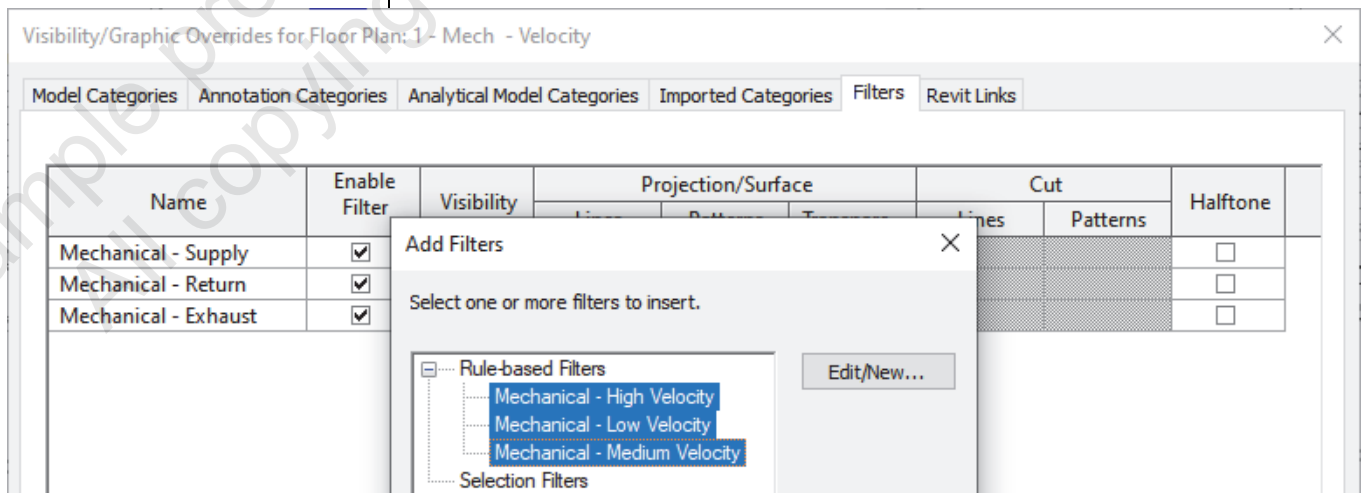

Figure 1–124
6. In the Add Filters dialog box, select the three new filters as shown in Figure 1–124. Click **OK**.